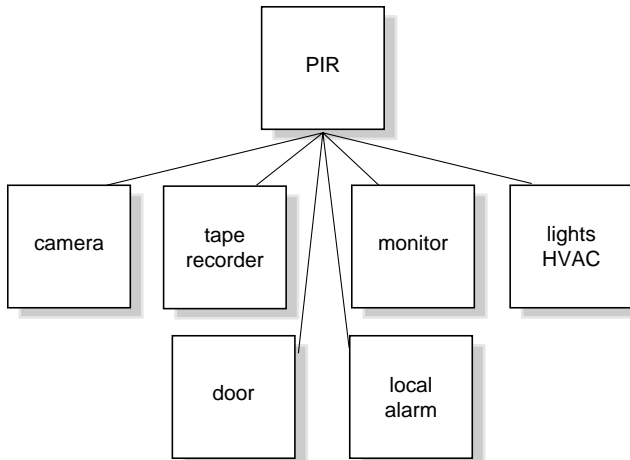

Figure 2—A PIR can be used to control many different devices.
- The 6187CTX PIR can be used outdoors to turn on a CCTV camera, or a camera on a chip, when an intruder is detected (Figure 2).